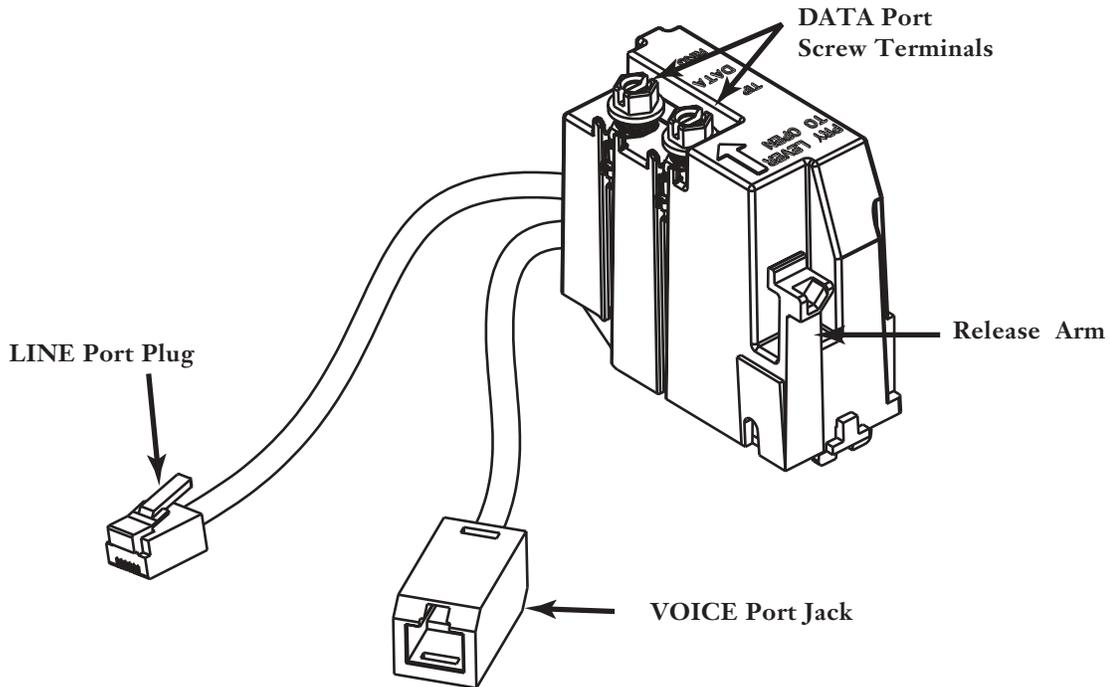

Figure 1
**1.1** The SLM Adjunct Module with POTS Splitter (Figure 1) snaps into the Corning Cable Systems CAC® 9600 unit, the Corning Cable Systems CAC 7600 unit, or the NI-2000-series unit. CAC 7600 and NI-2000-series units require an adapter. This module houses electronics known as a “POTS Splitter.” The POTS Splitter allows both voice and data signals to travel over the telephone line. This device splits the combined signal to provide separate outputs for both phone and data. The SLM Adjunct module must be used along with a Standard POTS Subscriber Line Module provided in the Outdoor Network Interface Device (NID). The SLM Adjunct Module with POTS Splitter and the Standard POTS Subscriber Line Modules are interconnected to provide the subscriber output screw terminals for wiring both voice and data.